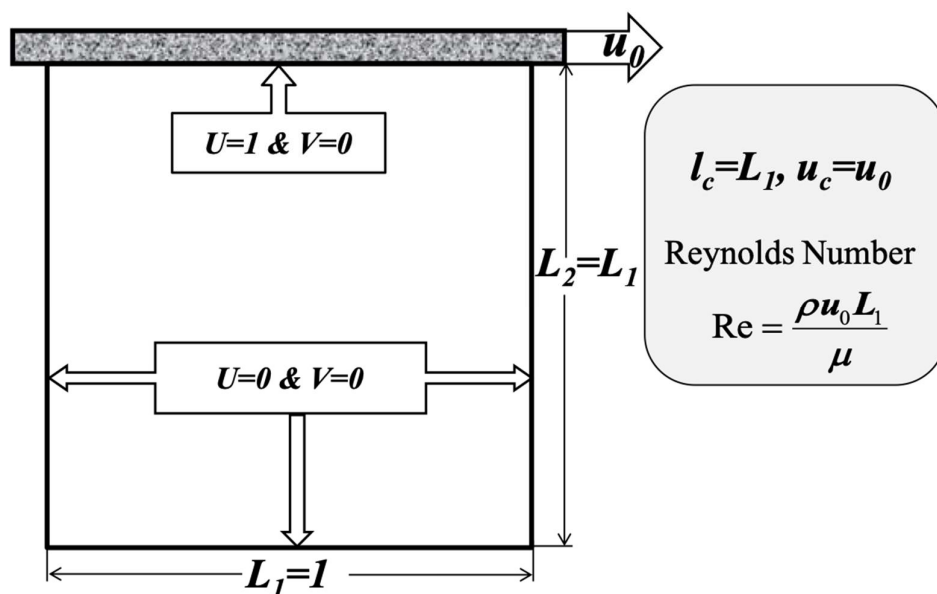

Fig. 1: Computational set-up (domain and boundary conditions) for the lid driven cavity flow.
- CFD code-development and testing of the Flow Solver for a LDC Flow:** Lid driven cavity flow probably is the most commonly used problem for testing of an in-house flow solver. This is shown in Fig. 1, as a square cavity with the left, right and bottom wall as stationary. The top wall, called here as the lid, acts like a long conveyor-belt and is moving horizontally with a constant velocity  $U_0$ . The motion results in a lid driven recirculating flow inside the cavity. The cavity is represented by a closed 2D Cartesian square domain of size  $L_1=L_2$ , with all the boundaries as the solid-walls. Figure 1 also shows the boundary conditions for the non-dimensional computational set-up of the problem. The simplicity in the shape of the domain and the boundary conditions has led to the wide application of the LDC flow as the benchmark problem for a flow solver.
Using the **stream function vorticity method** of the CFD development presented in the class for the FOU scheme, develop a computer program for the 2D steady flow solver on a *uniform* grid. The code should be written in a **non-dimensional** form, with the length of the cavity  $L_1=1$  as the characteristic length, and the lid velocity  $U_0=1$  as the characteristic velocity scale. They are shown in Fig. 1, along with the governing-parameter for the isothermal flow as Reynolds number  $Re=\rho U_0 L_1/\mu$ . The Re is implemented in the code by a computational set-up as  $\rho=U_0=L_2=1$  and  $\mu=1/Re$ . You may use the developed and tested codes in the previous chapters (for steady state conduction and convection heat transfer) as the generic subroutines in the present code-development for the flow solver. After the CFD development, run the code with a convergence tolerance of  $\epsilon_{st}=10^{-3}$ ; and present the following results:
**Fig. 1:** Steady state results obtained for a lid-driven cavity, on a grid size of  $51 \times 51$ , at  $Re=100$ : (a) velocity-vector, (b) streamlines (stream-function contours), and (c) vorticity contours.
Discuss **Figs. 1** and **2** here, limited inside this text box only